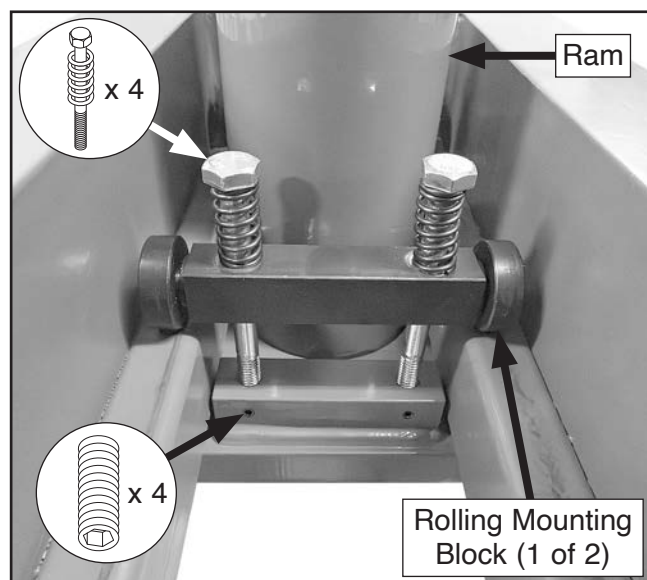

Figure 19. Location of hydraulic ram positioning components.
2. Loosen (4) set screws on ram mounting plate (see **Figure 19**).
3. Loosen (4) hex bolts on rolling mounting blocks (see **Figure 19**). Loosen each hex bolt evenly 1–2 turns at a time until ram can be moved side to side.
5. Tighten (4) hex bolts on rolling mounting blocks (see **Figure 19**) until they are fully threaded in ram mounting plate, and ram no longer moves side to side.
6. Tighten (4) set screws on ram mounting plate (see **Figure 19**).